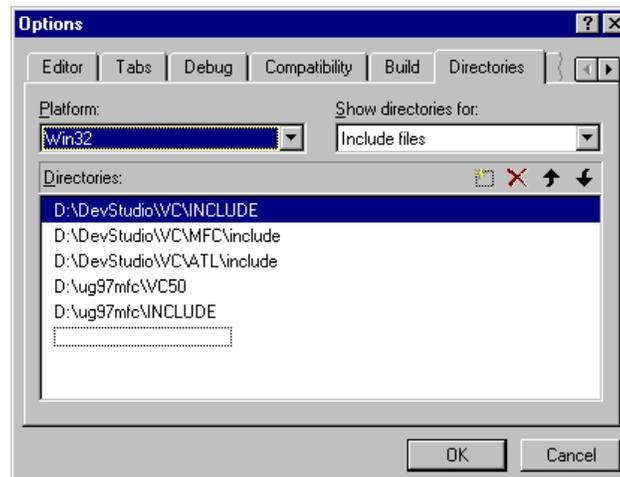

Figure 44 Options Dialog.
- During this tutorial we had you copy several files out of the TReK Installation directory into your own Cyclic project directory. It is probably a better idea to reference these files instead of copying them. That way, when you receive a new set of TReK files, your projects will always be pointing to the latest version. Otherwise when you get new TReK files you will need to copy the new version of these files into each of your project directories. However, either way will work. To tell Visual C++ how to find libraries and header files you can use the Visual C++ Options dialog. If you go to the **Tools** menu and choose **Options...** the dialog in Figure 44 will appear. This dialog provides a way to tell Visual C++ where to look for include files and library files. Make sure the **Show Directories for:** menu has **Include files** selected. Select the empty frame and type in the entire path for the TReK **include** directory. Library files can be handled in the same way. Just change the **Show Directories for:** menu to Library files and type in the path for the TReK **lib** directory.